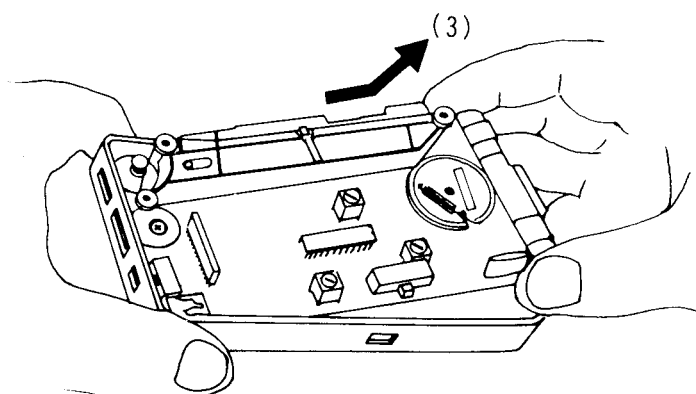

Fig. 3
2. Remove the PC. Board in the direction of arrow (3) as shown in (Fig. 3)